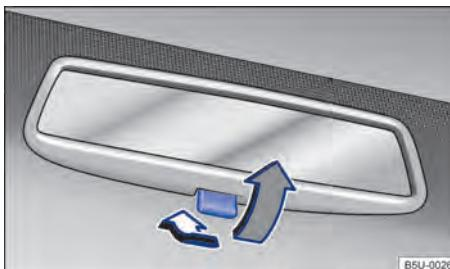

Fig. 68 On the windscreen: manual anti-dazzle interior mirror.
- Night position: pull the lever → **Fig. 68** (grey arrow) to avoid glare from the headlights of vehicles travelling behind.